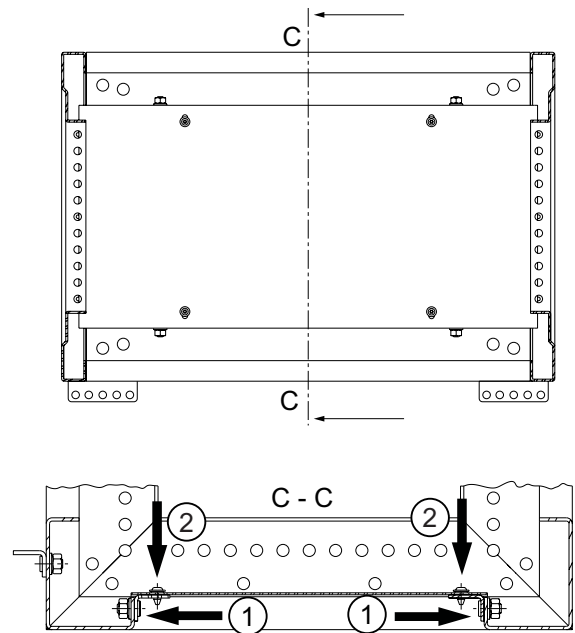

Fig. 6
- 1 Bolt the mounting angles to the vertical inner leg of the front and back cross members using M 8x15 threaded bolts, 8 contact washers and M 8 hexagonal nuts. See Figure 6. The front surface of the mounting angle and the upper edge of the cross member leg must be on the same plane.